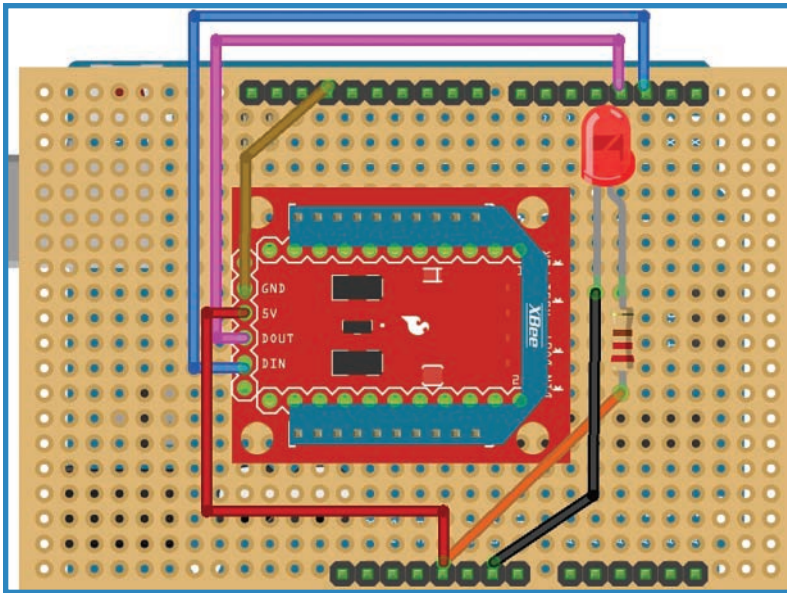

FIGURE 11.13 Solder in a test LED and resistor.
- c. We're going to add a status LED that lights up when the Arduino has power. Connect 5V to the positive lead of the LED with a 220-ohm resistor in between. I use an orange wire in Figure 11.13. Connect the negative lead of the LED to ground, shown as a black wire in the figure.